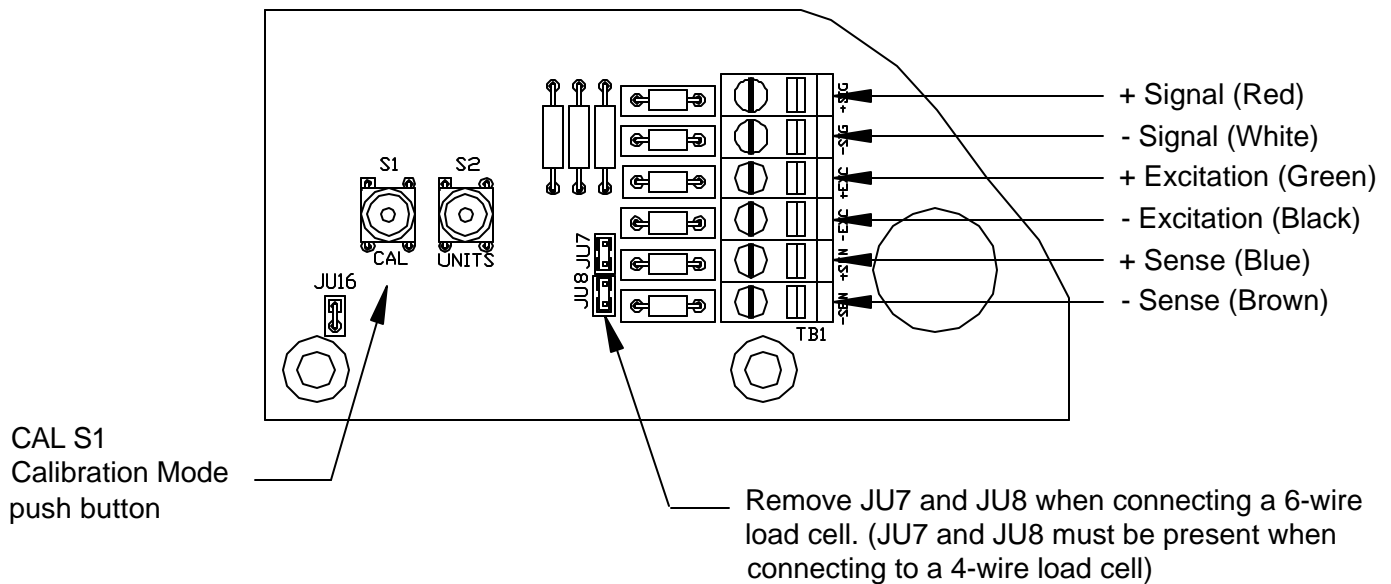
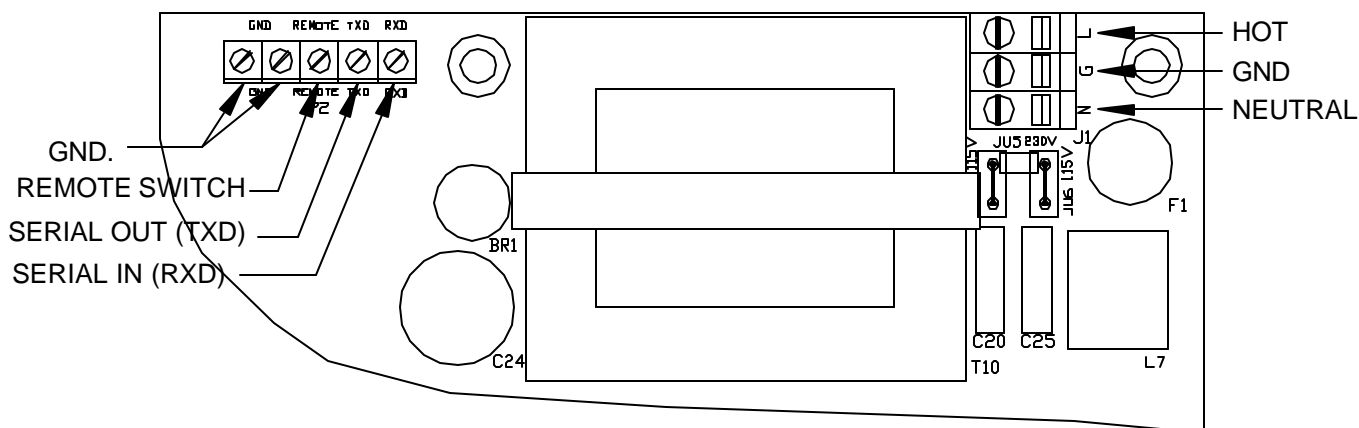

Fig. 6: Load Cell connections
Fig. 7: Serial, Remote SWITCH and power Connections
Load cell connections are made through a terminal block "TB1" located at the bottom center of the main board (see Fig. 6). The power cord connects to a connector "J1" adjacent to the transformer (see Fig. 7). These connections are accessible by removing the rear cover screws and laying the rear panel and front of scale on the work surface.
The Remote Switch and Serial Communications terminal is found on the top of the main board next to the transformer. These option connections are accessed by removing the rear cover. Connections are made by inserting each lead of the option cable into P2 terminal block (see Fig. 7). Like the load cell cable and power cord, the option cables are passed through watertight fittings mounted on the back of the indicator.
- 3) The **CAL switch S1** is a momentary push button located in the lower left corner of main PC. Board (see Fig. 6). To access the calibration switch remove the meter's back cover.
NOTE: If "**Er nEg**" appears on the display, the calibration span is in a negative range. Check polarity of load cell connection (see Fig. 6) and repeat Calibration.
Scale must be in Legal for Trade Switch mode ("oP" = "44S"). Apply power to the Scale. Then momentarily press the **CAL switch** S1 located in the lower left corner of main PC. Board (see Fig. 6). The calibration switch can be accessed by removing the meter's back cover. **Note:** Parameter and Calibration audit counters will be hidden when set in this mode. **Warning:** do not press CAL switch while powering up scale, this will cause the scale to reset all parameter settings.